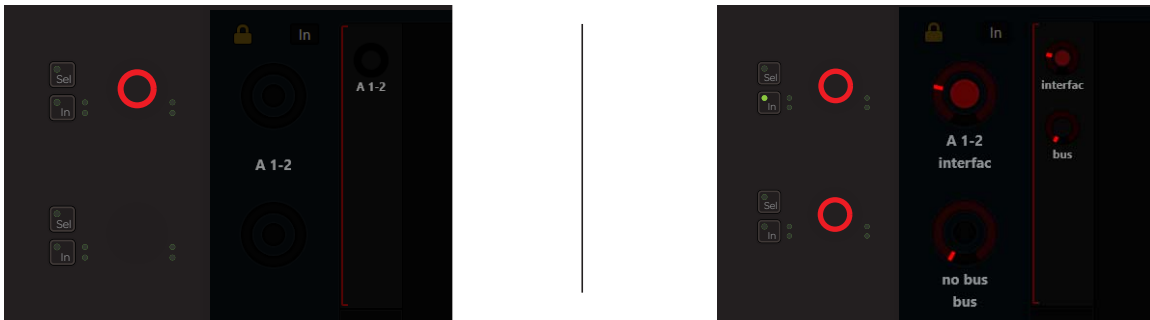

Figure 62. Top level Input knob set ((at left) and interface/bus knob set (at right)
- 2 Navigate to the Home screen and tap to select **Input** in the Function scroller. The upper left knob shows the currently assigned input source. (See Figure 62, left image.)
- To select a different source, press the upper left knob; the two upper left knobs display **interface** and **bus** sources. (See Figure 62, right image.) Rotate the corresponding knob until the desired source is shown, then press that knob's **In** switch.